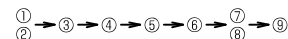

Fig. 4-1
- Before starting the unit operation, be sure to uncover the COMP CASE TOP and COMP CASE FRONT, and remove the COMP fixed parts. (Fig. 4-1)